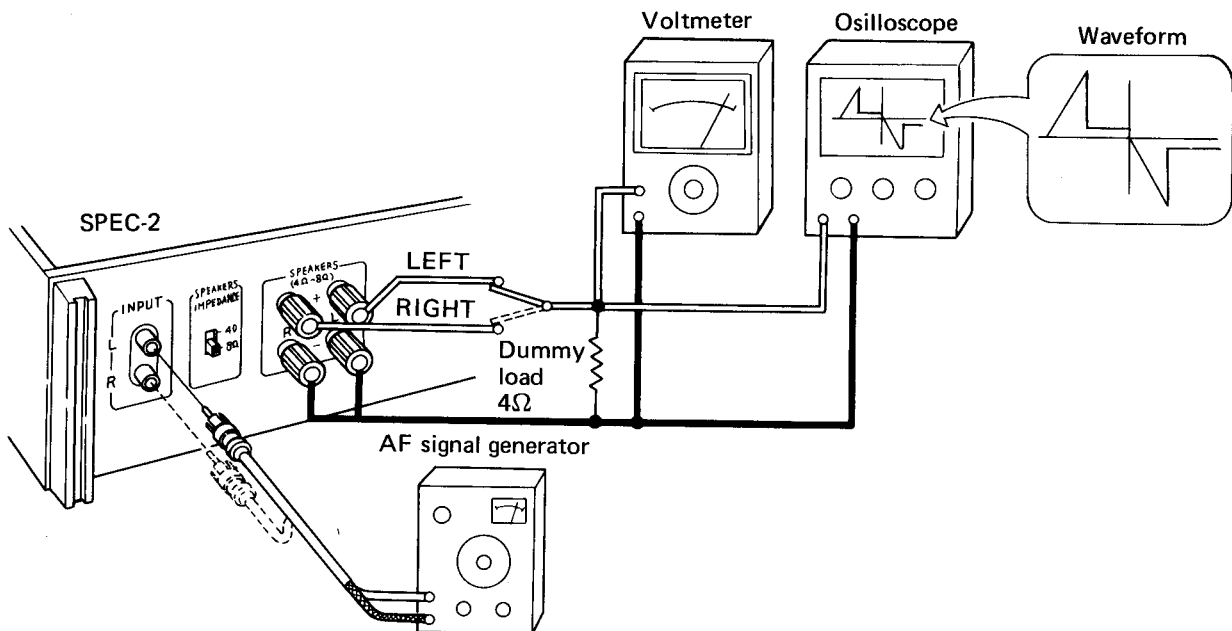

Fig. 14 Connection Diagram for Current Limiter Sensitivity Adjustment
- 1) Connect as shown in Fig. 14.